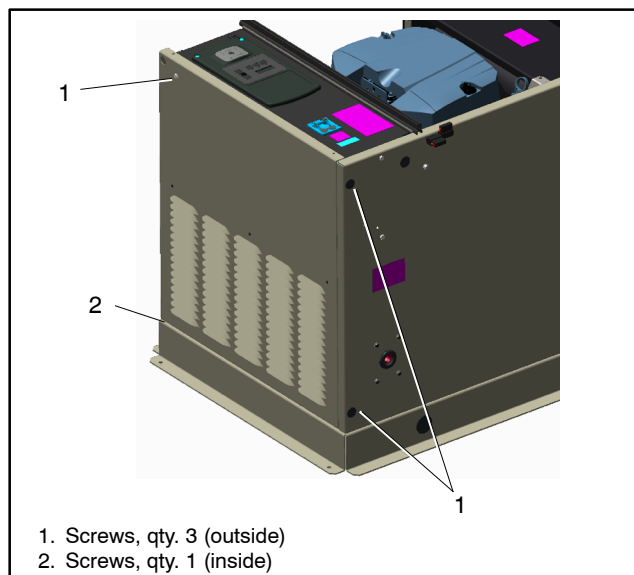

Figure 3 Removing the Front Panel
6. Remove the front panel by removing four screws shown in Figure 3.